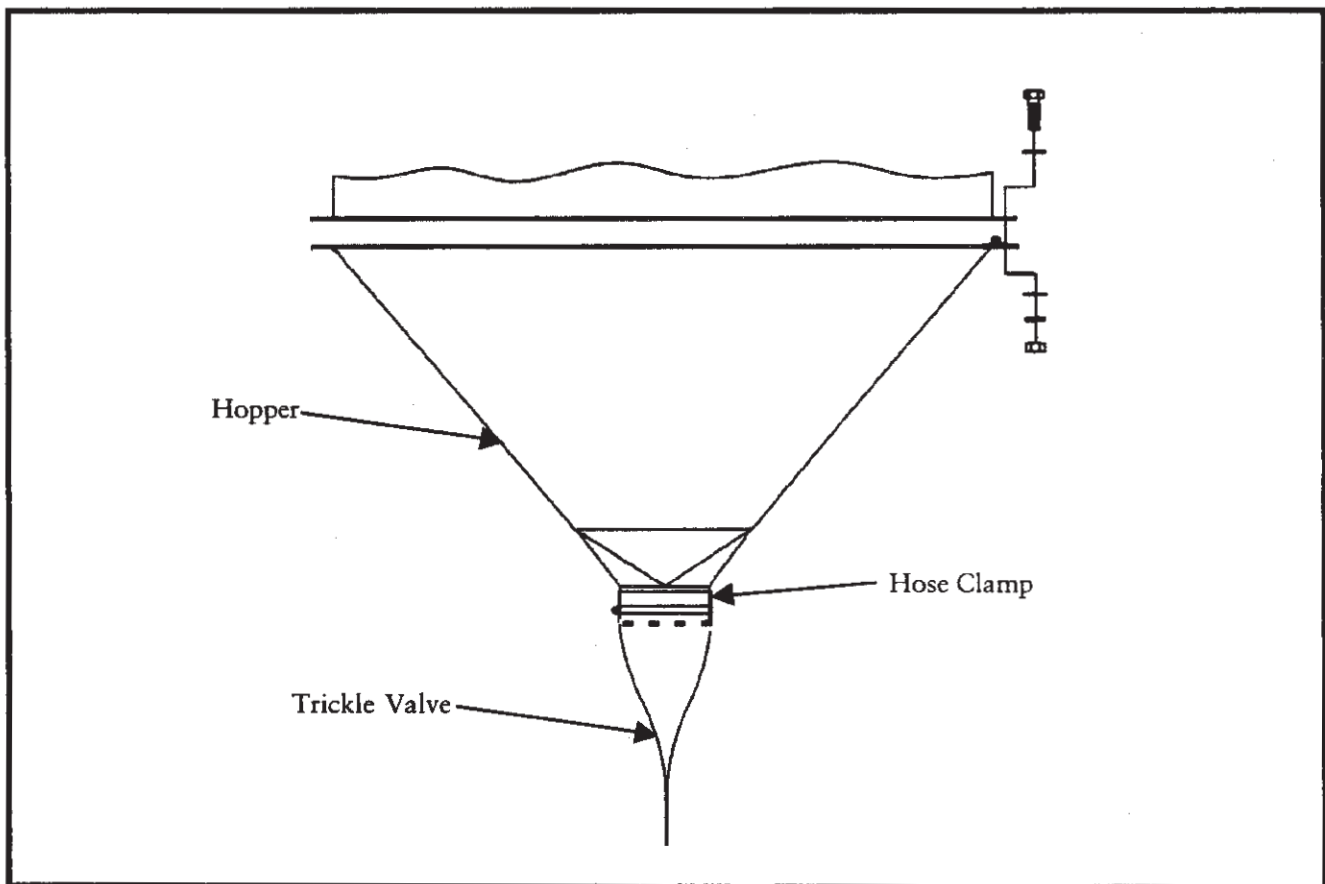

Figure 2
2.4.1 Hopper Installation (See Figure 2 Hopper Installation)